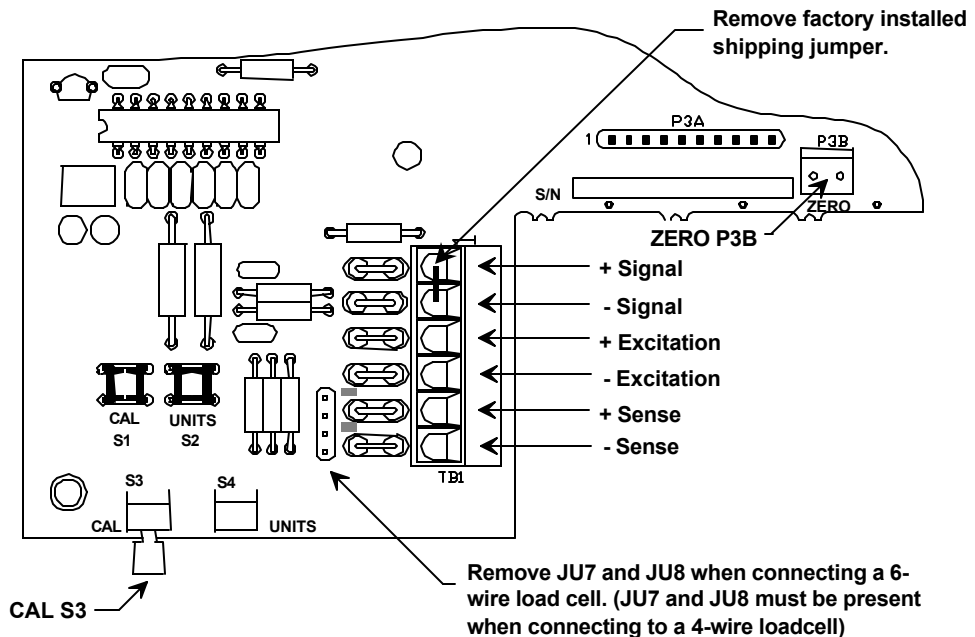

Fig. 4: Load Cell connections
Load cell connections are made through a terminal block located at the bottom center of the main PC. Board. The power cord connects to a connector adjacent to the transformer. These connections are accessible by removing the rear cover screws and laying the rear cover and main board on the work surface. Locate the ferrite core kit and read "load cell cable grounding and ferrite assembly" instruction sheet. Thread loadcell wires through the ferrite core as shown in Fig. 9. Connect load cell per Fig. 4.
- 2) The **CAL switch S1** is a momentary push button located in the lower left corner of main PC. Board (see Fig. 4). On the 7000XL and 8000XL, the calibration switch can be accessed by removing the meter's back cover. For the 7000 remove the Cal access panel located on bottom of indicator.
- 2) Apply power to the Scale. Then momentarily press the **CAL switch** S1 located in the lower left corner of main PC. Board (see Fig. 4). The calibration switch can be accessed by removing the meter's back cover. **Warning:** do not press CAL switch while powering up scale, this will cause the scale to reset all parameter settings.